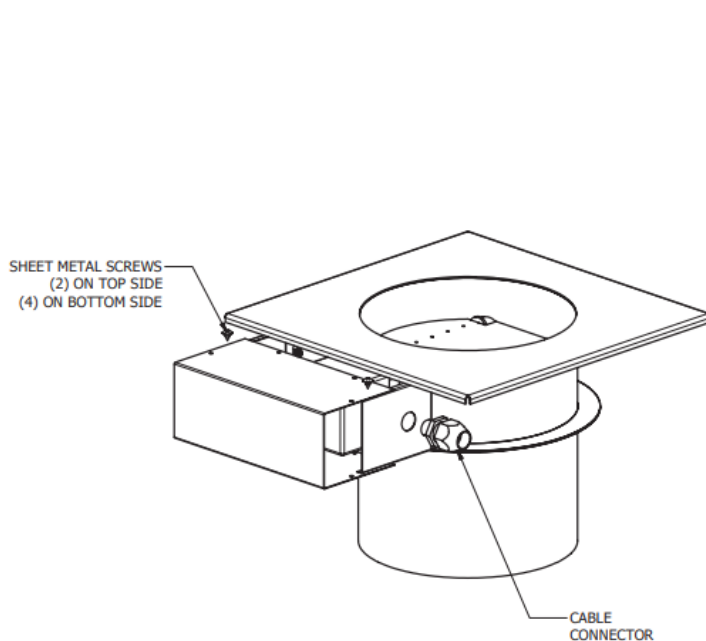
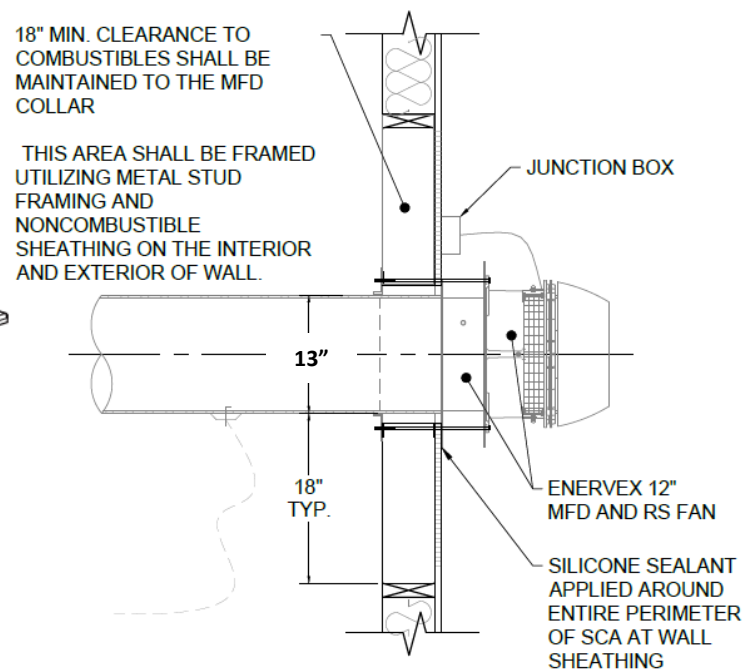

FIGURE 32
FIGURE 33
1. Before installing the MFD on the chimney, a power cable should be wired to the actuator and the actuator cover should be secured (**Figure 32**).
3. Use (6) of the included sheet metal screws to secure the actuator cover to the MFD. Once secure, apply a bead of silicone around the seams of the cover.
4. Mount the MFD outdoors at the end of a steel chimney. Slide the collar of the MFD into the steel chimney until the damper rests on the stop flange. Sheet metal screws may be installed around the collar into the chimney for additional support. Fasten the MFD to noncombustible framing with metal fasteners or bolts with locking nuts (**Figure 33**)